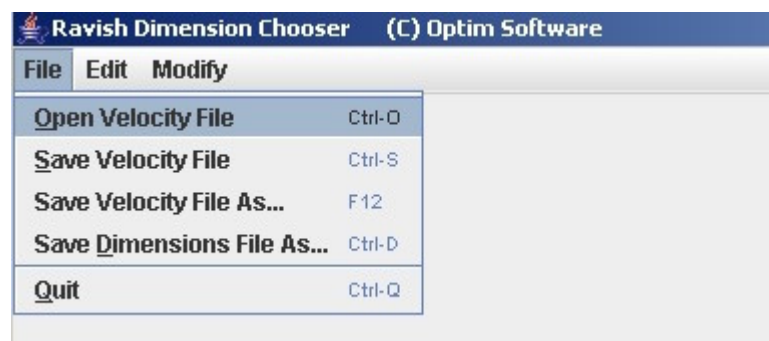

Figure 46: Click on ‘Dimension Chooser’ to bring up the window to specify variable grids
- The Window shown in Figure 46 opens up